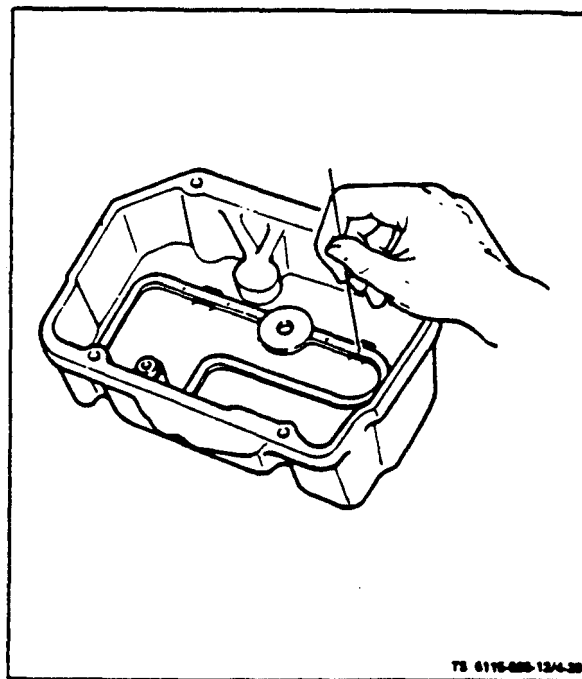

Figure 4-39. Cleaning Rocker Arm Cover Oil Line
c. **Service.** Every 500 operating hours, remove rocker arm covers and clean oil lines. Flush oil lines with clean diesel fuel and clean small holes with a fine wire. See figure 4-39.